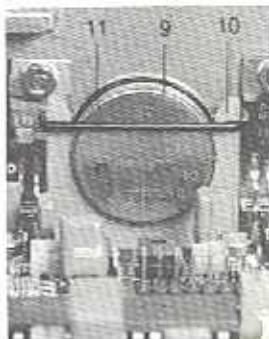

Fig. 15
2. Remove the two screws (7) with a Philips screwdriver.
3. Position the cover (5) and slide free from the tabs (6).
4. **Note the position of the battery (9) in the clip (10) and ensure that the new battery is at hand.**
5. Remove rubber ring (11) from clip (10), without loosening or removing the battery while doing so.
6. Remove the old battery (9) from the clip (10) and insert the new one correctly (+ terminal of battery against + terminal of clip) within 30 seconds, pressing it home firmly. If the batteries are not exchanged within 30 seconds, all stored data will be lost!
7. Replace rubber ring (11) over clip (10). (See Fig. 15) Be sure the battery is securely positioned in clip.
8. Replace cover (5) and fasten screws (7).
9. Enter date of insertion of new battery in table (8).